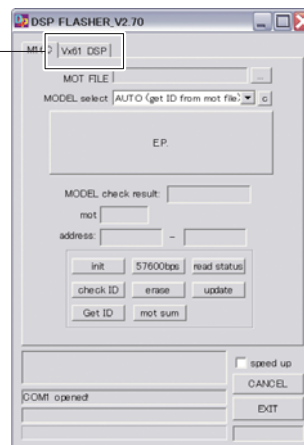

Fig. 1
"DSP_FLASHER_V2.70" is displayed. (Fig. 1)
2. Click [Vx61 DSP]. (Fig. 1)